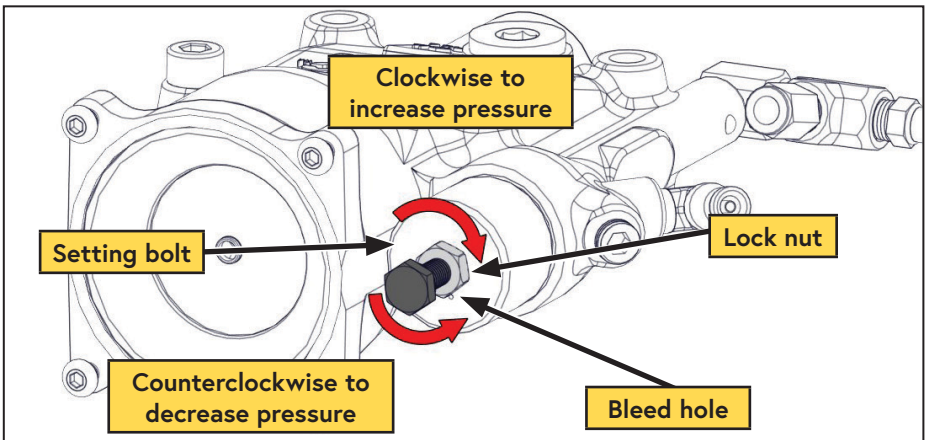

Figure 43 — Adjusting the inlet pressure regulator
- Loosen the locknut on the regulator (Figure 43).
- Rotate the pressure adjusting bolt as required to set the regulated pressure to 140 psi. (Figure 43).